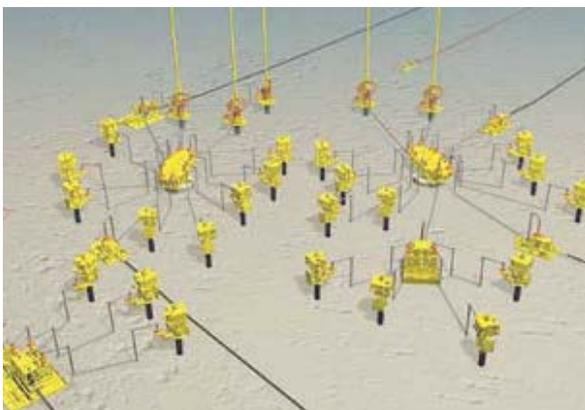
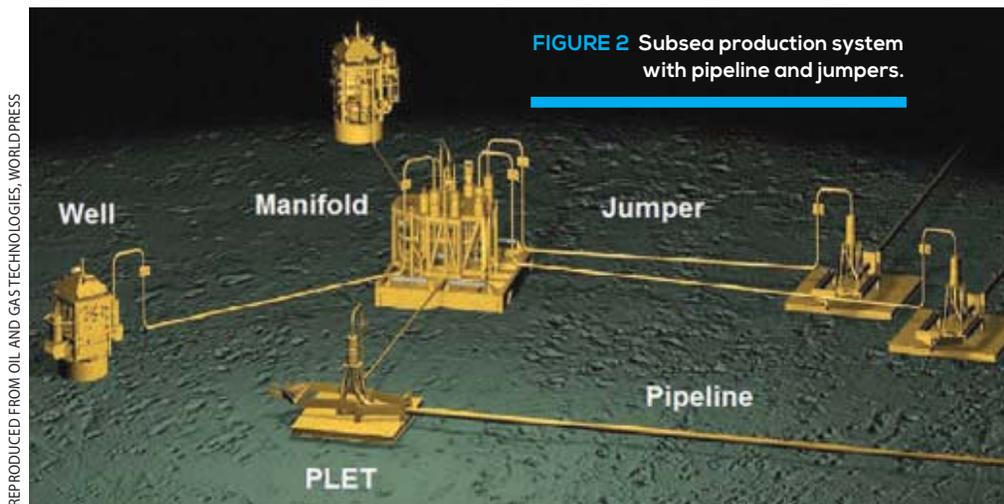

FIGURE 1 Subsea multi-well and multi-manifold oil and gas production system.
FIGURE 2 Subsea production system with pipeline and jumpers.
The major cost for producing an ultra-deepwater reservoir is the drilling operation. At this stage it is important to note that oil and gas reservoirs are not subsurface cavities filled with crude oil. Instead a reservoir is a subsurface formation of permeable rock containing hydrocarbons. Ultra-deepwater drilling is accomplished using dynamically positioned (DP) drill ships enabled through global positioning systems (GPS). The drilling operation is known as upstream oil and gas engineering. Offshore drilling operations are occurring everyday where the drill string (thick walled piping with a bit attached at the end) travels 2 miles to reach the mud line and then another 3 miles to the reservoir. Roughly speaking, this is equivalent to stretching a guitar string the length of a football field and twisting one end to perform drilling. Once the well is established, the engineering operations necessary to produce oil and gas are known as downstream engineering. This phase of subsea oil and gas production focuses on the design and installation of the subsea production system (Figure 1). The primary issues facing downstream engineers include equipment reliability, connectors (connections between subsystems) and multiphase flow (flow comprising oil, gas, water and sand).
Subsea hydrocarbon production facilities are separated into two primary categories, subsea (Figure 1) and topside (above the water). To describe an underwater production facility, we will begin at the wellhead. The wellhead is a pipe with a flange put in place by upstream operations. This pipe (well casing) travel into the earth's crust to penetrate the reservoir. The well casing within the reservoir is perforated to allow flow from the high-pressure reservoir. Bolted to the well casing flange is the so-called Christmas Tree (XTree) (Figure 2, see the engineered system below the word "Well").
The product flows from the XTree to a subsea manifold via a jumper (Figure 2). The jumper is a pipe designed to withstand sand erosion and product corrosion. All jumpers have U-like shapes enabling stiffness/flexibility and function [3].
Owing to the capital expenditures associated with ultra-deepwater systems, it is mandatory for each subsea production site to have multiple wells (Figure 2). Each well has its dedicated XTree and jumper, and is producing hydrocarbons. A subsea manifold gathers these individual productions into a central place. Subsea manifolds are not small. In fact, subsea manifolds can reach dimensions of up to 75ft. x 40ft. x 20ft., having huge weights that match their dimensions. A subsea manifold serves many functions. For example, the manifold allows access to the flow hydrocarbons to inject chemicals for flow assurance issues. Manifolds provide the primary location for pipeline cleaning using pipeline inspection gauges (PIGs). However, the primary function of the subsea manifold is to combine flow hydrocarbons from multiple wells and send the resulting aggregate through a single pipeline to the so-called tieback. The manifold is connected to the pipeline